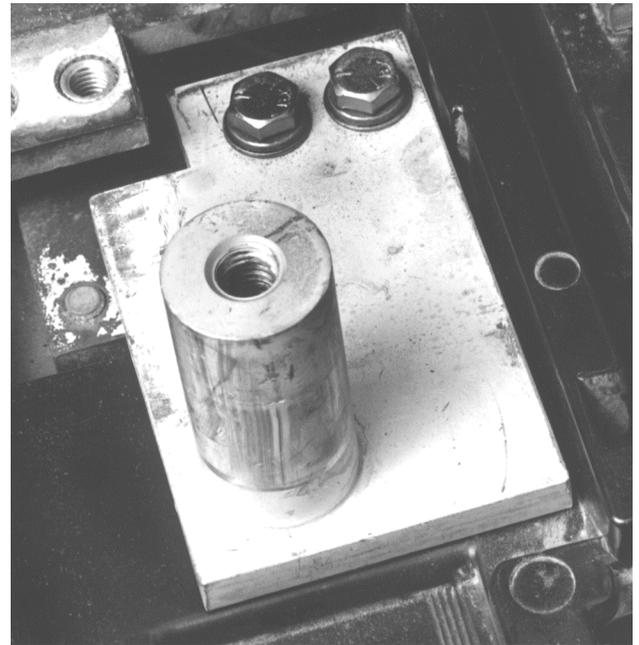

Figure 19. CT post mounted in the breaker back frame.
1. Mount the new copper CT post to the back frame with the two 3 8-16 x $1\frac{1}{2}$ " bolts, flat washers, and lock washers provided, as shown in Figure 19.